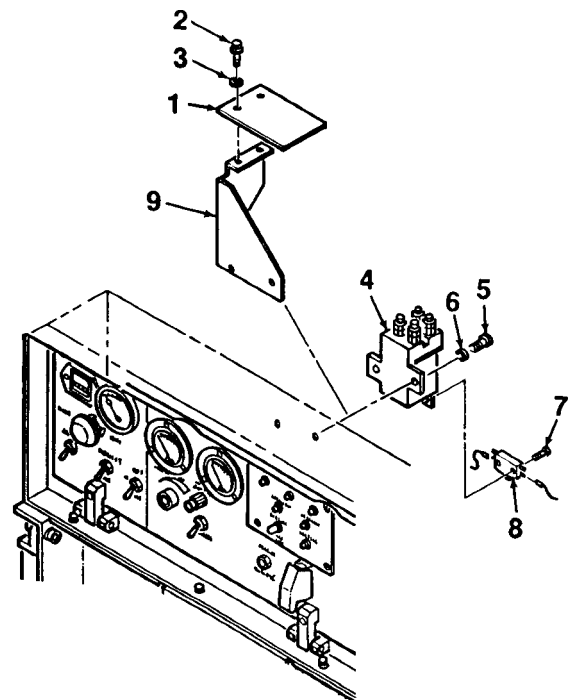

Figure 4-19. AC Circuit Interrupter Contactor
2. Remove protective plate (1, Figure 4-19) from bracket (9) by removing screws (2) and lockwashers (3).
3. Tag and disconnect electrical wiring from AC circuit interrupter contactor K1 (4).
4. Remove contactor K1 (4) and bracket (9) from back of control box by removing screw and captive washer assemblies (5) and washers (6).
5. Remove microswitch (8) from contactor K1 (4) by removing screw and captive washer assemblies (7).
1. Install microswitch (8, Figure 4-19) onto AC circuit interrupter contactor K1 (4) using screw and captive washer assemblies (7).
2. Mate contactor K1 (4) and bracket (9) to back of control box. Secure using screw and captive washer assemblies (5) and washers (6).
3. Connect electrical wiring to contactor K1 (4).
4. Install protective plate (1) onto bracket (2) using screws (2) and lockwashers (3).